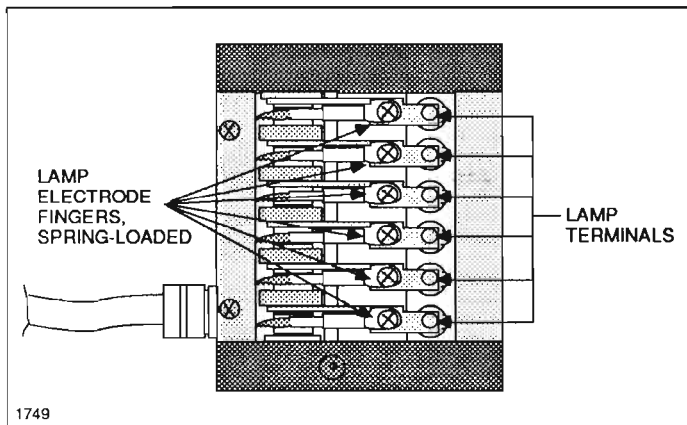

Figure 4-2. Top of heater, access cover removed.
- Retract the lamp electrode holder using the lamp insert tool provided with the unit (figures 4-2 and 4-3).